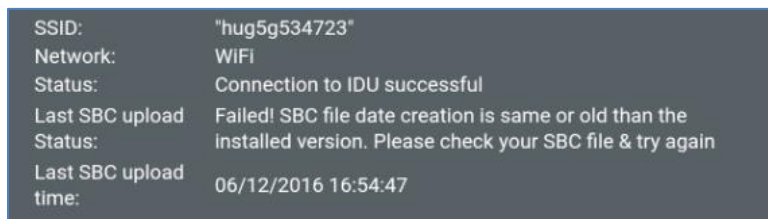

Figure 29: SBC file upload failure
- If the modem's current SBC file is newer than or the same version as the one you are uploading, OASIS will indicate such with the message shown in Figure 29.